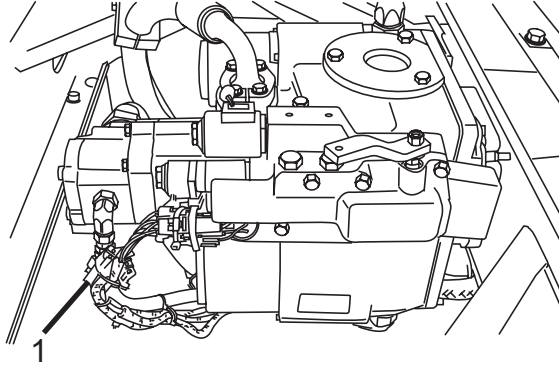

Figure 8
4. **For Traditional Controls with RE (Remote Electric Controls) Only:** Connect the main electrical connector (Figure 8, Item 1) to the charge/discharge coils. Proceed to Step 8.